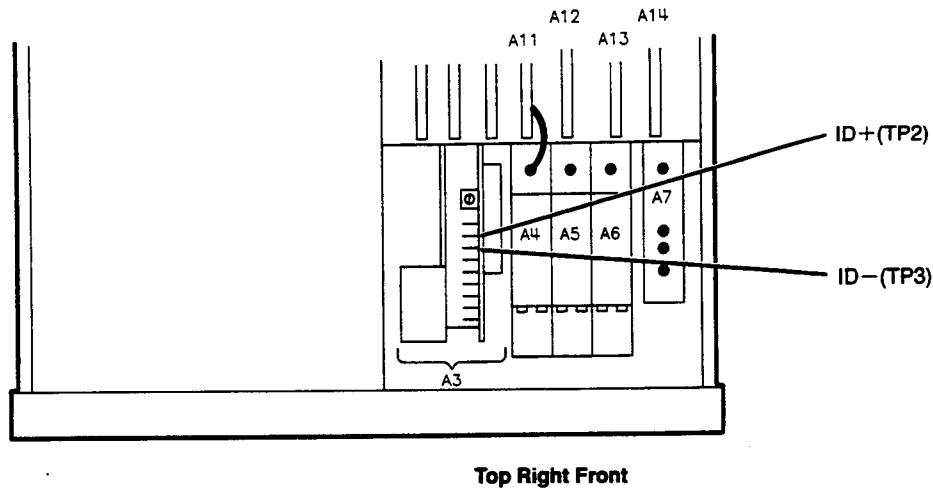

Figure 5. Location of ID+ and ID- on A3 Source Assembly
- If the power output changes are not proper, check the voltage between ID+ (TP2) and ID- (TP3) on the A3 source assembly (see Figure 5):